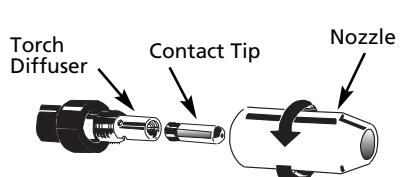

Figure 5 - Torch Nozzle
Note: Before installing welding wire, be sure that the diameter of the welding wire matches the groove in the drive roller on the wire feed mechanism and that the wire size matches the contact tip in the end of the gun (see Figure 5).
6. Remove the nozzle by turning counter-clockwise. Then unscrew the contact tip from the end of the welding torch (See Figure 5). Plug the welder into the proper power supply receptacle.
8. Carefully slip the contact tip over the wire and screw it into the torch end. Install the nozzle by turning clockwise. (See Figure 5). Cut the wire off approximately 1/4 inch from the end of the nozzle.
Note: Before installing welding wire, be sure that the diameter of the welding wire matches the groove in the drive roller on the wire feed mechanism and that the wire size matches the contact tip in the end of the gun (see Figure 5). Any mismatch could cause the wire to slip, bind or weld poorly.
7. Remove the nozzle by turning counter-clockwise. Then unscrew the contact tip from the end of the welding torch (See Figure 5). Plug the welder into the proper power supply receptacle.
9. Carefully slip the contact tip over the wire and screw it into the torch end. Install the nozzle by turning clockwise. (See Fig. 5). Cut the wire off approximately 1/4 inch from the end of the nozzle.